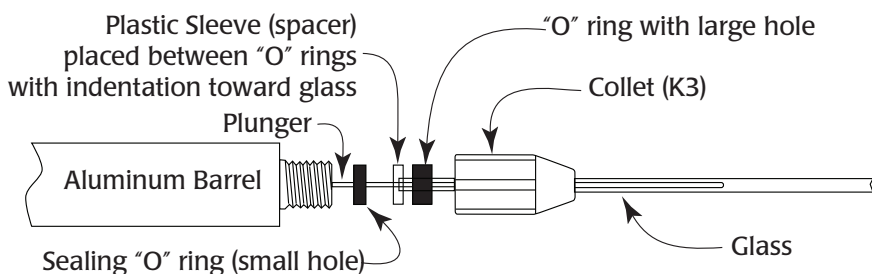
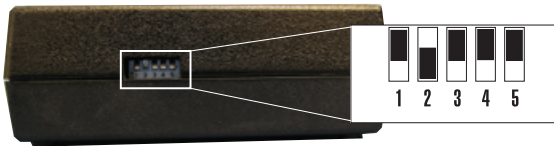

Fig. 5—Standard configuration for installing the micropipette
Fig. 6—The DIP switches, located on the right side of the control unit, determine the injection volumes. See Table 1.
1. Once the micropipette is backfilled, loosen the collet (**Fig. 5**). The pointed wire plunger should be positioned so you can just see the tip flush with the end of the collet (slightly recessed is also acceptable). This is referred to as the “home” position.
2. Push the micropipette onto the wire plunger. As you push the tip on, feel it go through the large O-ring and seat in the white spacer. See **Fig. 5** for the proper configuration of the O-rings and the white spacer. It is absolutely essential that these components are properly configured.
3. **Fig. 5** and **Fig. 6** show the assembly of the micropipette to the **Nanoliter 2000**.
Injection aliquot volumes are determined by the position of the DIP switches, located on the right side of the **Nanoliter 2000**. DIP switches #1–4 control the aliquot volume (**Fig. 6**). DIP switch #5 selects the fast injection rate and fill rates. See “Setting the Aliquot Volume and Injection Speed” on page 10.
After a period of time or heavy use, you may observe some leakage around the seals. To correct this, replace the O-rings. Replacement O-rings are included with your **Nanoliter 2000**. Additional O-rings (WPI #5340) may also be ordered. See “Securing the Micropipette to the Injector” on page 7. **Fig. 5** shows the proper installation configurations. Correct orientation of the O-rings is critical for proper operation.